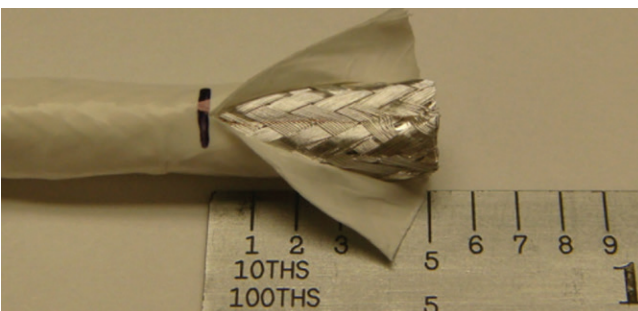

Figure 12: Slitting the cable jacket
4. Using a scalpel or scissors, slit the cable's jacket from its edge to the mark (Figure 12).